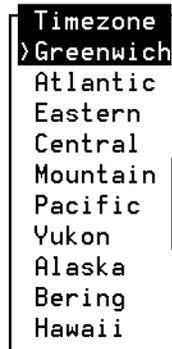

Figure 3-17. UNIX Time Zone Choices Menu
1. Press **CHOICES** (F2) to display the list of time zones (Figure 3-17).